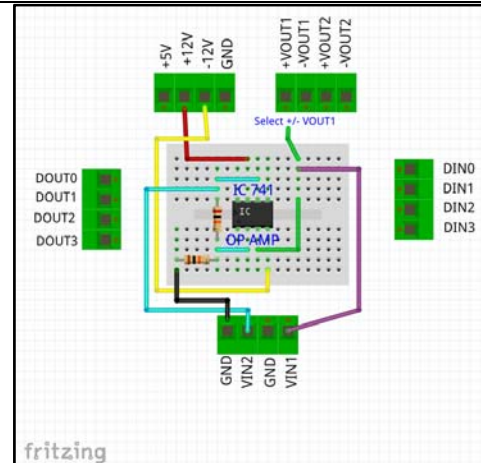

Fig 34. Test Setup
1. Connect the Operational Amplifier using IC LM741 along with +12V/-12V supply and ground using the setup shown in Fig 34.